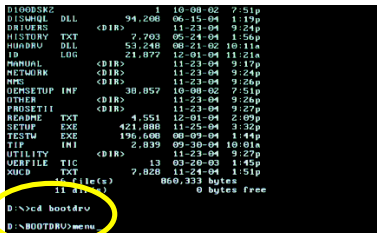

Figure 10
Step 1: Insert the prepared startup disk and motherboard driver CD-ROM in your system. Boot from the startup disk. Once at the A:\> prompt, change to the CD-ROM drive (example: D:\>). At the D:\> prompt, type the following two commands. Press ENTER after each command (Figure 10):